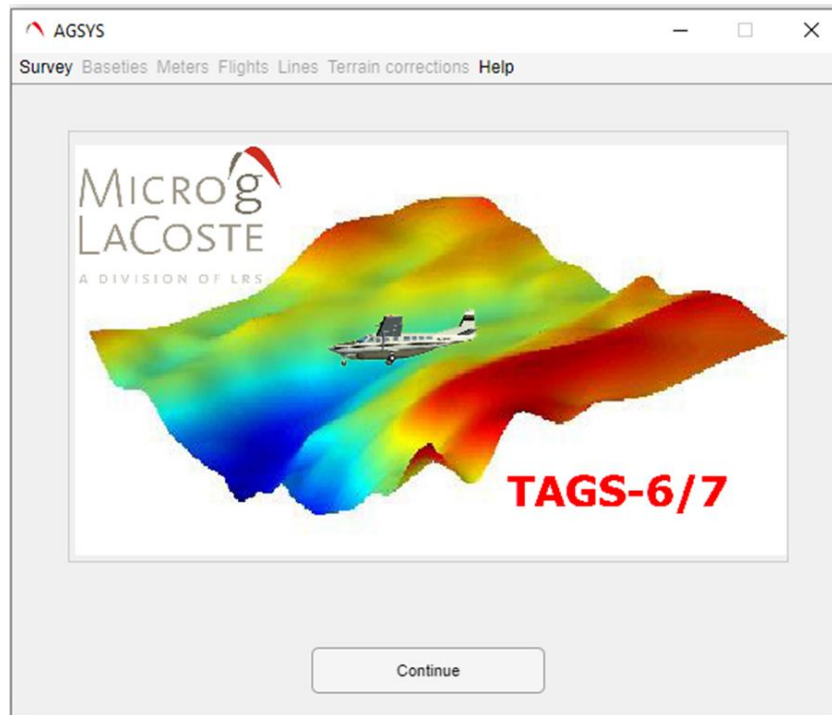

Figure 2-13 Main Start-up Window For AGSYS
- When the initial **AGSYS** window appears (Figure 2-13), click **Continue** to begin TAGS-6 / 7 data processing